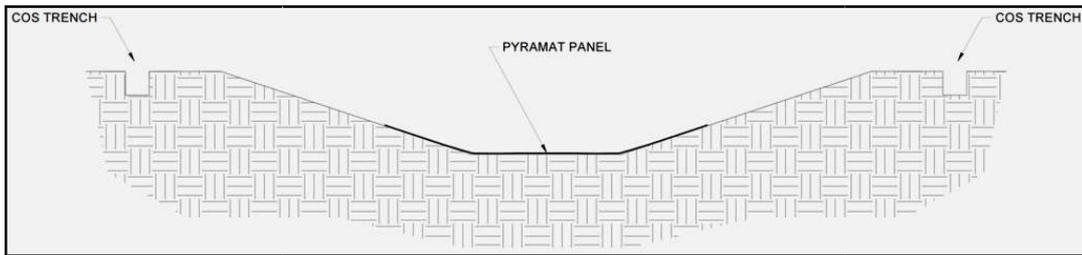
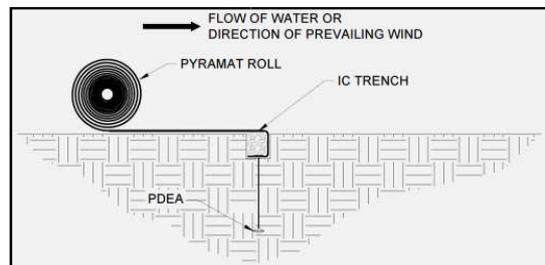
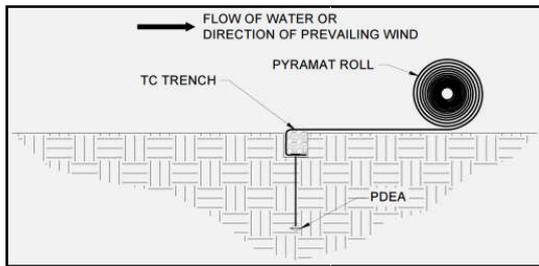

Figure 16: Center Panel Placement
Figure 17: Initial Channel (IC) Trench Complete
Figure 20: Terminal Channel (TC) Trench Complete
6. Starting with the center Pyramat panel (Figure 16), roll the Pyramat rolls over the top of the compacted IC trench and upstream across the surface of the channel (Figure 17). Ensure that Pyramat has intimate contact with the ground and all irregular surfaces beneath the Pyramat are removed.
11. Starting with the center Pyramat panel (Figure 16), roll the Pyramat rolls over the top of the compacted TC trench and downstream across the surface of the channel (Figure 20). Ensure that Pyramat has intimate contact with the ground and all irregular surfaces beneath the Pyramat are removed.